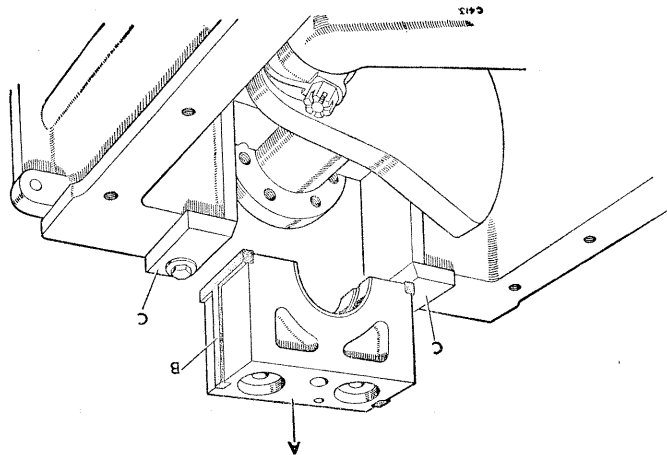

Fig. A-44—Fitting rear bearing cap and seal assembly
15. Firmment of the rear main bearing cap, with side seals in position, will be facilitated by using a lead tool (Part No. 270304) fitted to the sump studs adjacent to rear bearing cap aperture. See Fig. A-44.